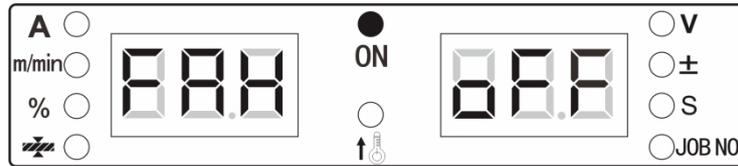

Fig. 3-16 FAH display interface
1. Enter the internal menu and find **FAH** by turning the knob. The digital meter is as displayed in Fig. 3-16.